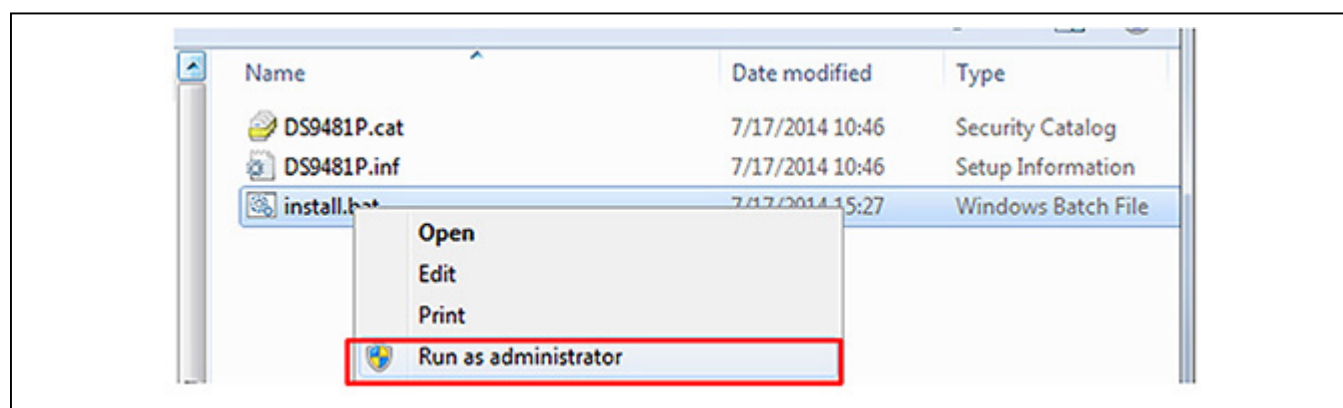
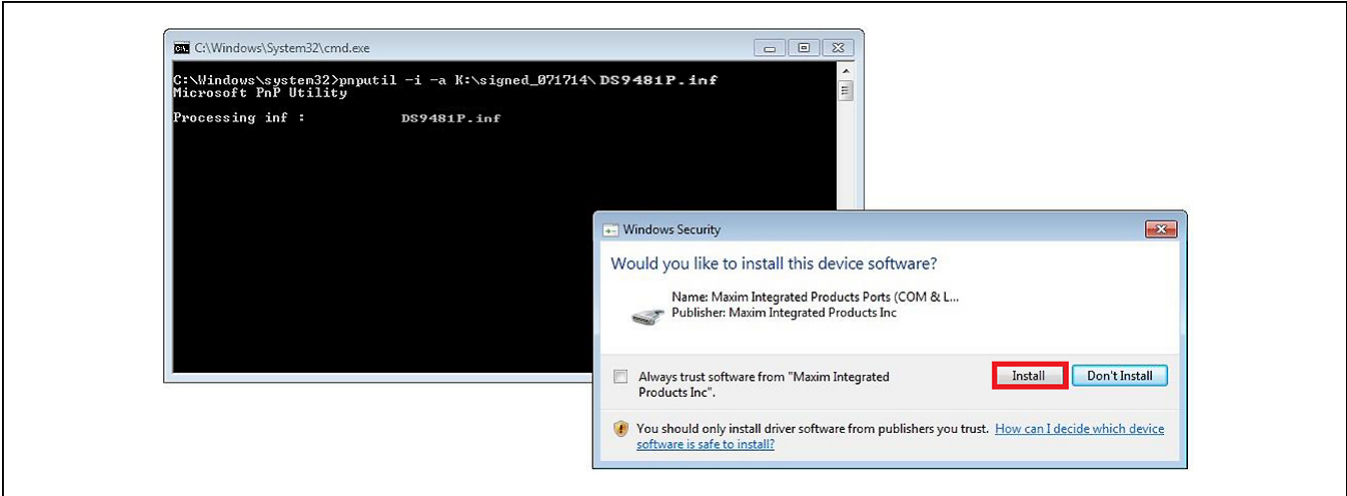
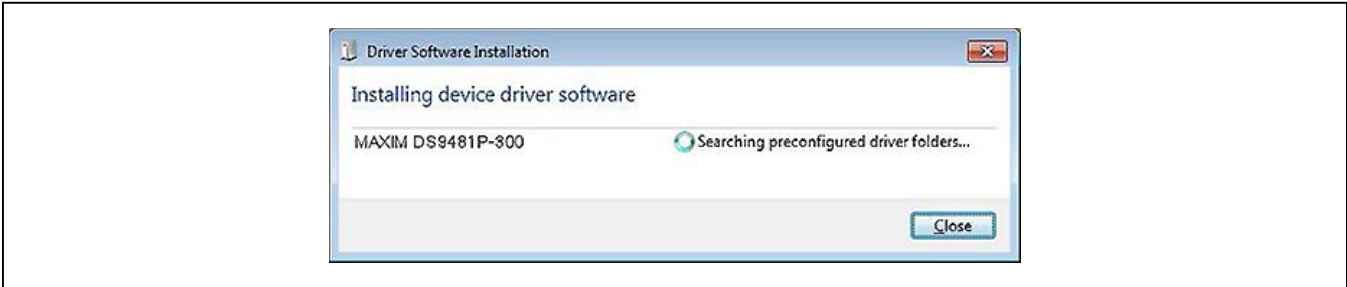

Figure 7. Device Driver Installation
Figure 8. Device Driver (Install Device Software)
Figure 9. Device Driver Successfully Installed
- 1) Install the DS9481P-300# drivers as shown in Figure 7, Figure 8, and Figure 9.
- 6) Right-click on **install.bat** and then choose **Run as administrator** (Figure 7).
- 7) A command window opens with a prompt asking to install the device driver (Figure 8). Click **Install**.
- 11) The device will automatically search for and install the driver (Figure 9).